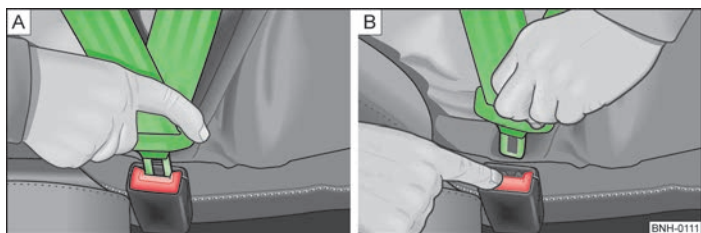

Fig. 119 Fastening/unfastening the seat belt
- Insert the lock tongue into the belt buckle » Fig. 119 - [A] that is part of the seat until it clicks into place.
- Press the red button in the belt buckle » Fig. 119 - [B], the lock tongue pops out.